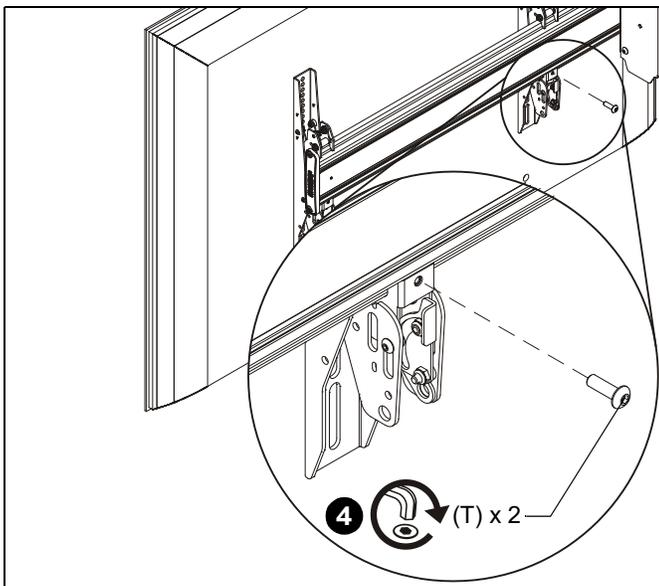

Figure 20
4. Fasten bracket against mounting rail using one 10-24 x 5/8" button head cap screw (T). (See Figure 20)